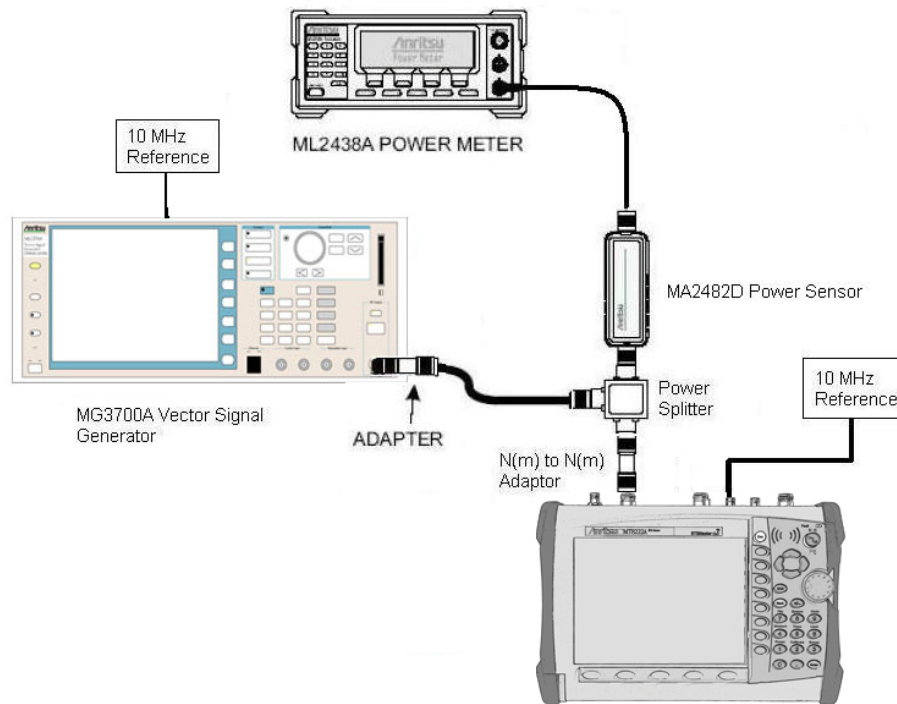

Figure 5-2. GSM/GPRS/EDGE Signal Analyzer Option Verification
1. Connect the equipment as shown in Figure 5-2.